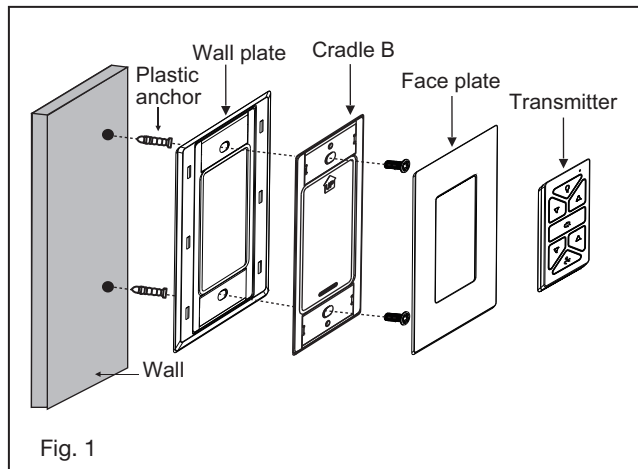

Fig. 1
- 1 Remove ball from downrod by loosening set screw in the side of the ball. Slide ball down and remove ball pin; remove ball. (Fig. 1)
1. Insert the receiver into the ceiling mounting bracket with the flat side of the receiver facing the ceiling. (Fig. 1) For best performance, make sure the Black Antenna and WIFI Antenna, on the end of the receiver, remains extended and not tangled with any of the electrical wires.
Re-install the bottom motor housing. (Fig. 1)
- 1 Select a desired location. Use the wall plate to mark the location of the mounting holes. Plastic wall anchors or mounting screws are needed for this application. (Fig. 1)
Remove the panel from the transmitter and then install one 2032 battery (included). You need to use a coin to open or close the battery cover. To prevent damage to transmitter, remove the battery if not use for long periods of time (Fig. 1)